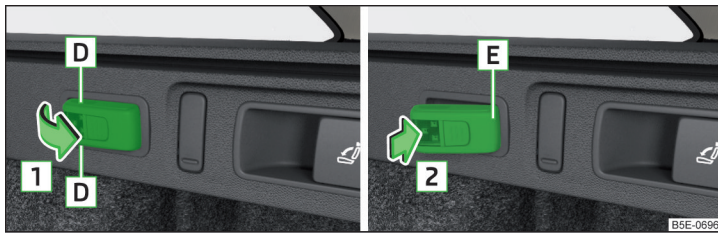

Fig. 141 Removing light/inserting light
- To **remove**, hold the light in the area **D** and swivel in the direction of arrow **1** » Fig. 141.
- To **insert**, first of all insert the light with the rear part **E** into the mount » Fig. 141 and then push the light in the direction of arrow **2** until it audibly clicks into place.